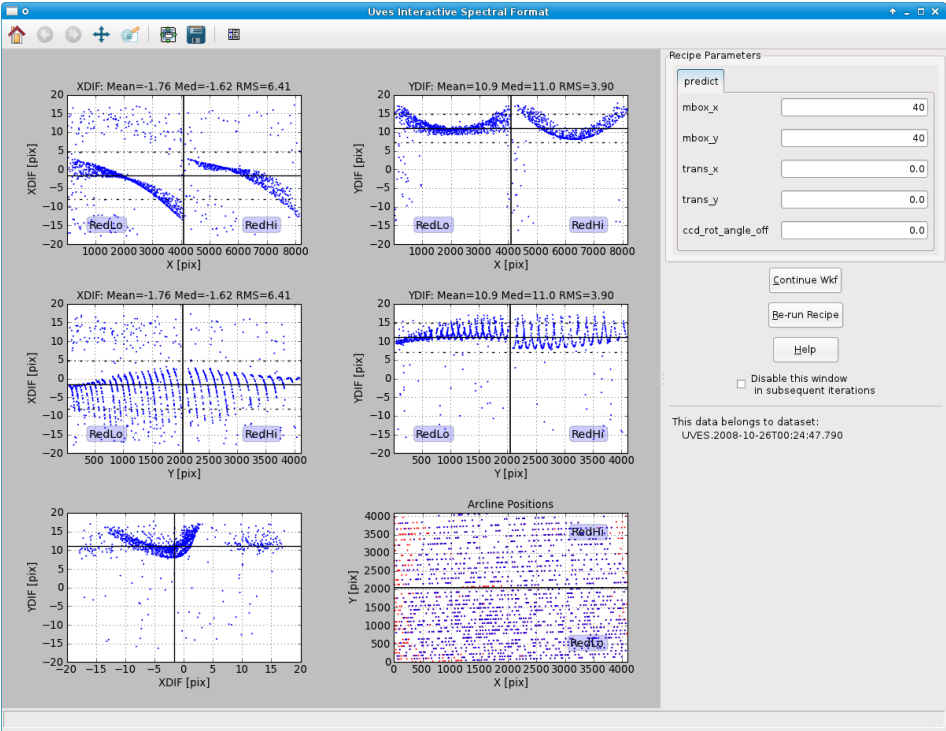

Figure 6.7: The interactive window for the Spectrum Locator actor for the first DataSet in the data supplied with Reflex 2.8..
6. `Spectrum Locator`: During the execution of the `Spectrum Locator` actor, an interactive window will appear as shown in Figure 6.7. The interactive window consists of six plots, five pipeline recipe parameters that may be changed, three buttons on the right, and a panel of buttons at the top-left. Help for each of these features may be accessed by leaving the mouse pointer for about one second over the plot/parameter/button for which information is required. Note that the recipe parameters are grouped via labels at the top of the “Recipe Parameters” box that may be left-clicked on to reveal the associated parameters.